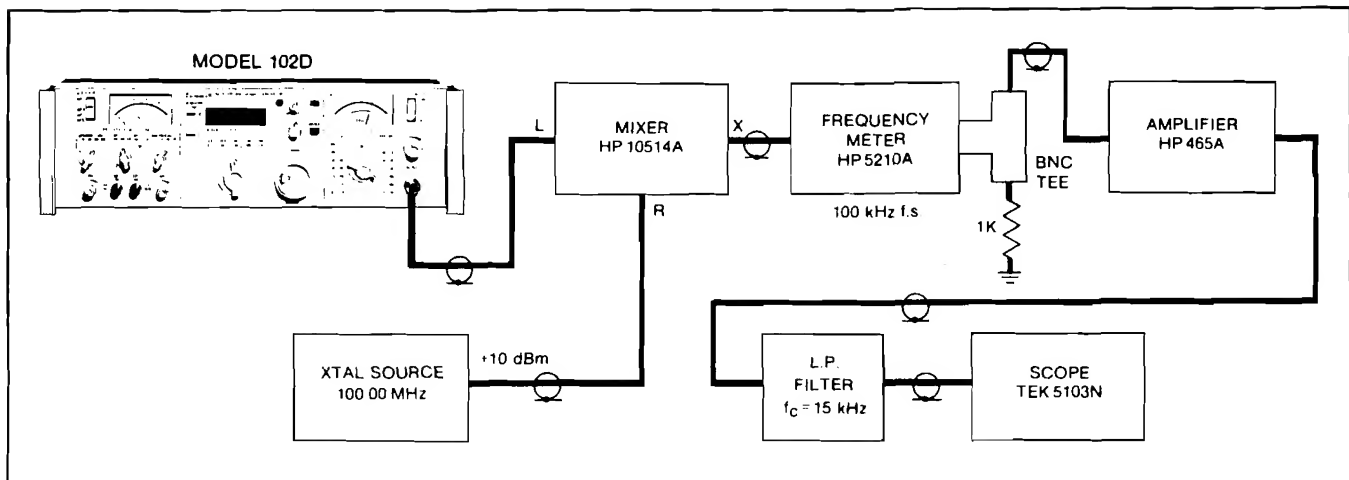

Figure 2-22 Incidental FM with AM Check, Test Setup
a. Connect the Model 102D and test equipment as shown in Figure 2-22.